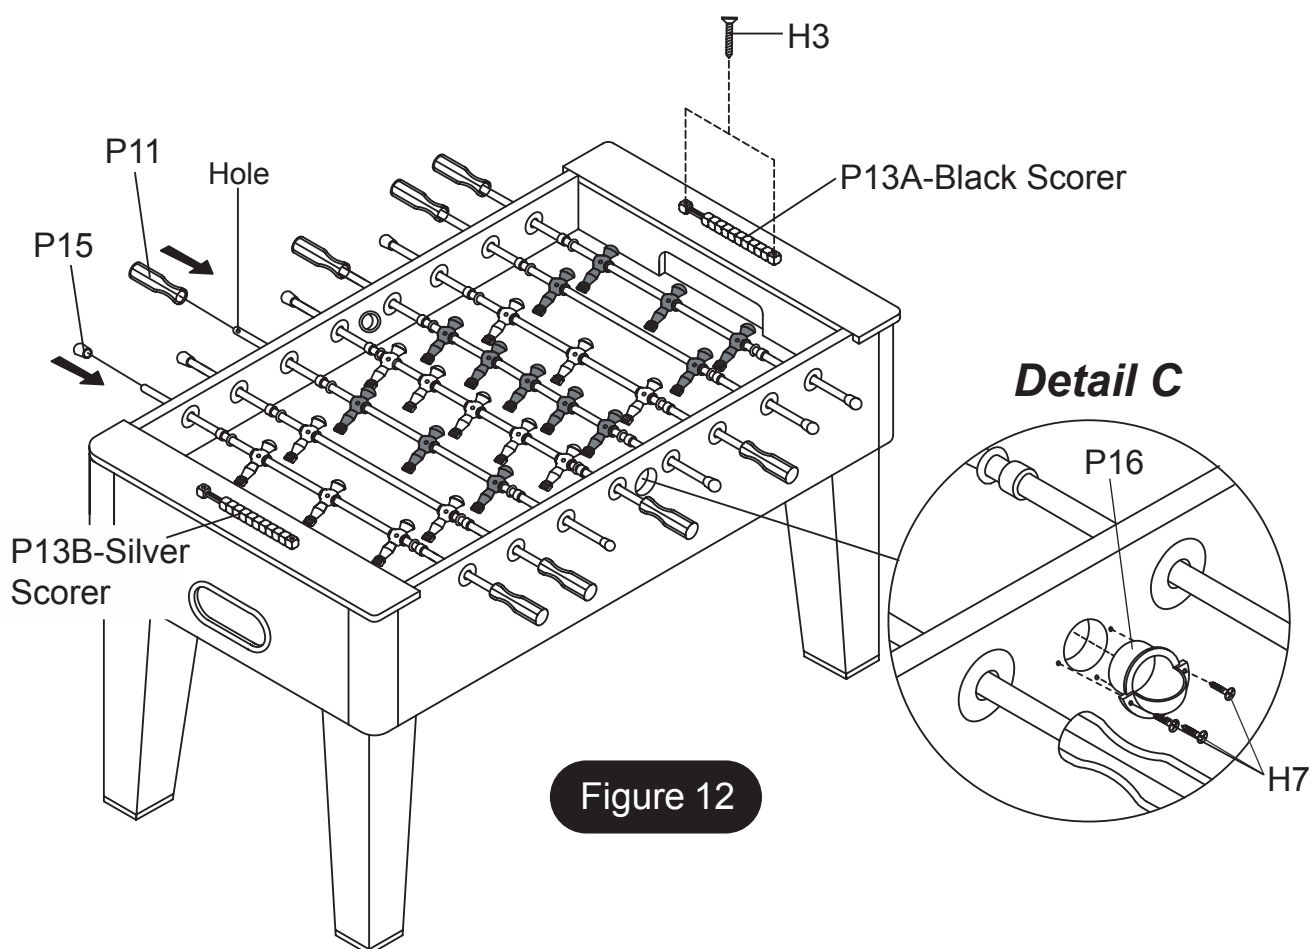

Figure 12
15. Attach Scorers **P13A** and **P13B** using Screws **H3** as shown in **FIGURE 12**.
17. Attach each Rod End Cap **P15** to each rod as shown in **FIGURE 12**.